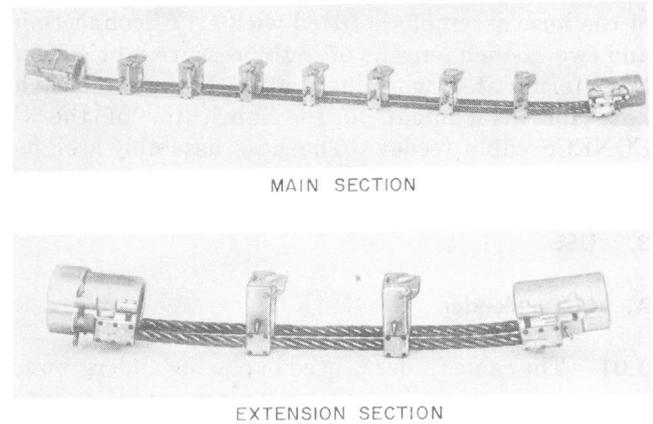

Fig. 4—C CONECS Cable Feeder
2.06 The C CONECS cable feeder consists of two assemblies—an 8-foot 2-inch main section (which incorporates a lubricator), and a 3-foot 10-inch extension. The assemblies are a series of split rings joined together with two wire ropes. When the split rings are closed to form a cable guide, the minimum internal diameter is 3.94 inches. This will allow the C CONECS cable feeder to accommodate the largest cables. The main section weighs approximately 75 pounds and the extension section weighs approximately 35 pounds (Fig. 4). The C CONECS cable feeder is marked “Bell System C.”